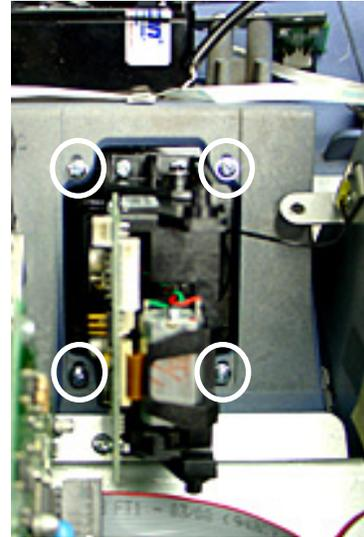

Figure 2. EMV card reader mounting points
3. Refer to Figure 2. Remove the four (4) mountings screw that secure the EMV dip card reader and slide it out of the 9100 control panel.
2. Refer to Figure 15 and Figure 2 on page 4 (card reader mount locations). Secure the EMV card reader (removed from the original 9100 control panel) in the 9100 X2 control panel at each corner with the four (4) mounting screws. Refer to Figure 16. Make sure the read head ground wire is secured (along with the ground straps) with one the mounting screws.